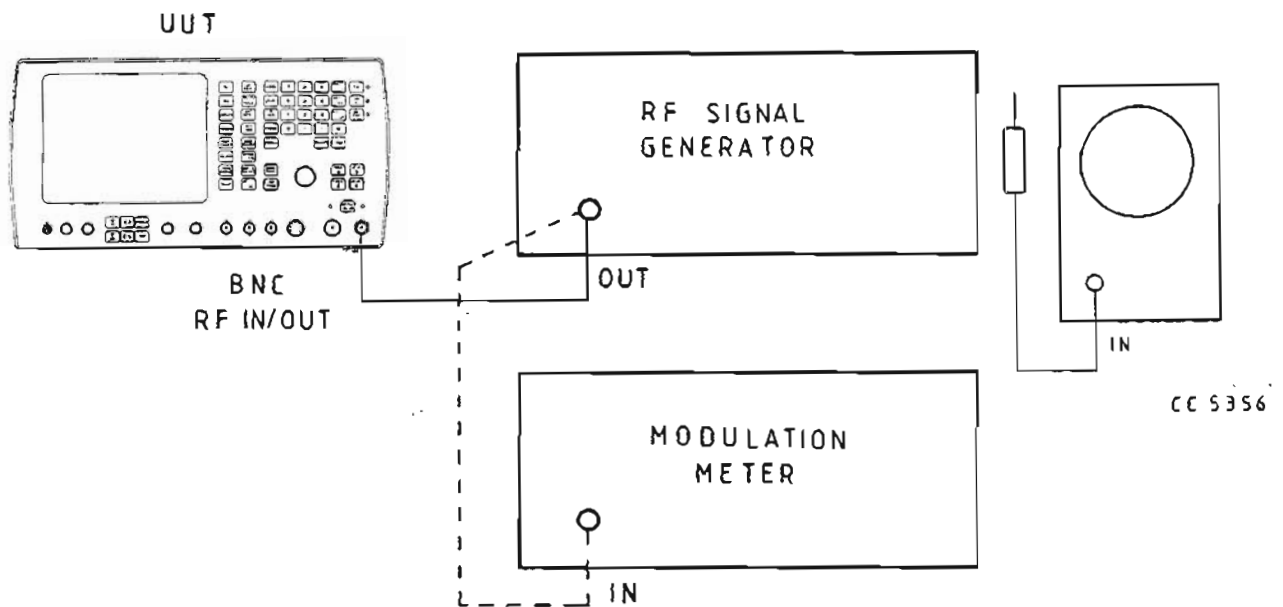

Fig. 7 Test equipment connections for adjusting R138, R172, R168, R129 on AB5
- (1) Connect the signal generator to the u.u.t. as shown in Fig. 7.
- (2) Set the signal generator to carrier frequency 100 MHz, modulation off, r.f. level 0 dBm.
- (3) Set the u.u.t. to TX, monitoring a.m., 0.3 - 3.4 kHz band-pass filter, b.n.c. input.
- (4) Set R172 to mid-position. Monitor TP1 via the probe on the oscilloscope.
- (5) Reduce the signal generator output slowly until the trace on the oscilloscope starts to reduce. Now adjust R138 to peak the trace, i.e. maximum amplitude on TP1.
- (6) Increase the signal generator r.f. level to 0 dBm and adjust R172 for 1 V p-p on the oscilloscope. Remove the oscilloscope probe from TP1.
- (7) Set the signal generator to carrier 100 MHz, a.m. 50%, modulation 1 kHz, r.f. level 0 dBm.
- (8) Set the modulation meter to measure a.m., (p-p)/2 with the 0.3 - 3.4 kHz band-pass filter selected.
- (9) Connect the signal generator output to the modulation meter input and note the a.m. depth reading.
- (10) Connect the signal generator output to the u.u.t. b.n.c. input socket and adjust R168 to give the same a.m. reading on the 2955 as was displayed on the modulation meter.
- (1) Connect the signal generator to the modulation meter as shown in Fig. 7.
- (2) Set the signal generator to carrier frequency 100 MHz, f.m. deviation 5 kHz, modulation rate 1 kHz, r.f. level 0 dBm.
- (3) Set the modulation meter to measure f.m. with the 0.3 - 3.4 kHz band-pass filter selected.